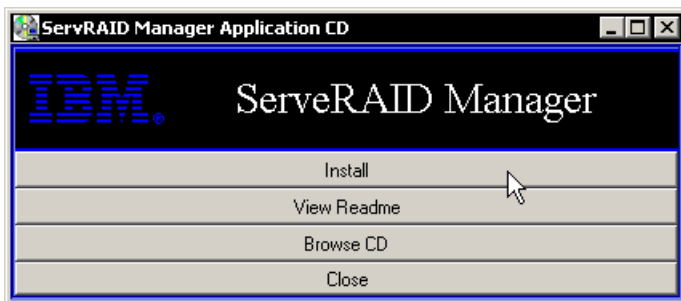

Figure 25 ServeRAID install start
- b. In the resulting ServeRAID window click **Install**, as shown in Figure 25.